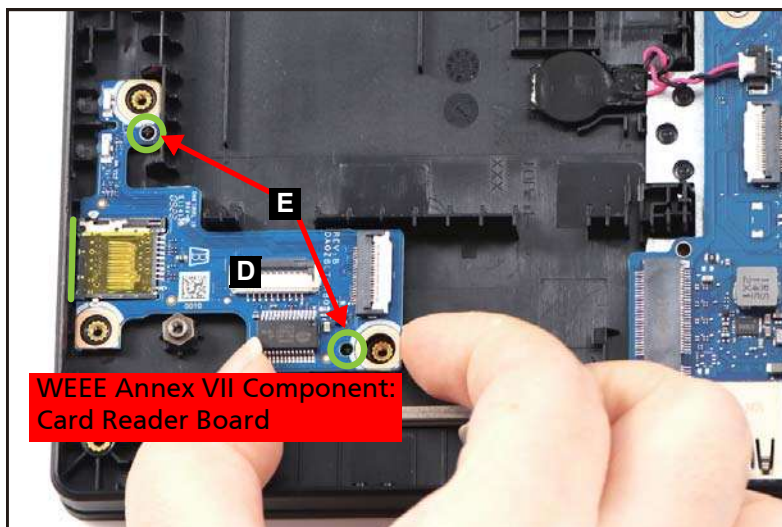

Figure 3-45. Card Reader Board Removal
4. Release the card reader board (D) from the card reader slot and guide pins (E) (Figure 3-45). Then remove the board from the top assembly.